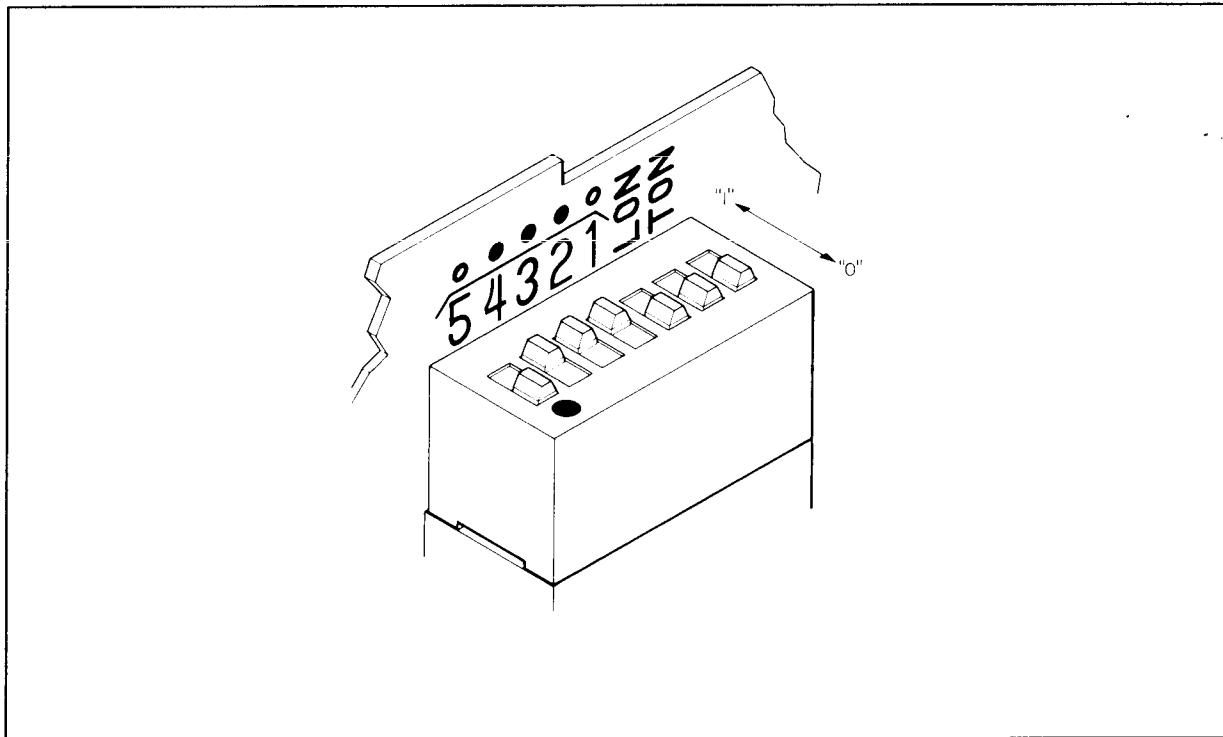

Figure 2–2. The HP-IB Address Switch Shown as Set by the Factory
5. Use a pencil to set the switches to the desired HP-IB address and Talk Only (TON) or Listen Only (LON) condition. The switch is illustrated in Figure 2–2. Facing the board, the left hand switch (marked with a "5") is the most significant address bit (A5 in Table 2–2). Setting a switch toward the printed circuit board places it in its "1" position. If the TON and LON switches are both set to "1", the Talk Only setting will override. If the address switches and the TON switch are all set to "1", the Measuring Receiver will output one byte (the status byte) each measurement cycle. (Setting all switches to "1" defeats HP-IB operation.)